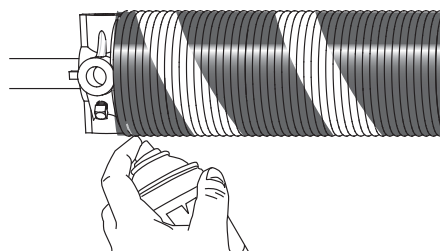

Fig: 3.9.2
- g) Oil the springs full length to prevent noise and reduce friction. TAL 5 or similar oil rich lubricant in a pressure spray can is acceptable. Fig 3.9.2